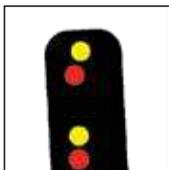

FIG. 7
Standard installation uses the bottom holes (pictured red in Fig. 7), for 4° more pitch use the top holes (pictured yellow in Fig. 7).
**NOTES:** **Installation bolts sold separately.** Use M16 x 55 10.9 Hex Head bolts. Standard installation uses the bottom holes (pictured red in Fig. 7), for 4° more pitch use the top holes (pictured yellow in Fig. 7).